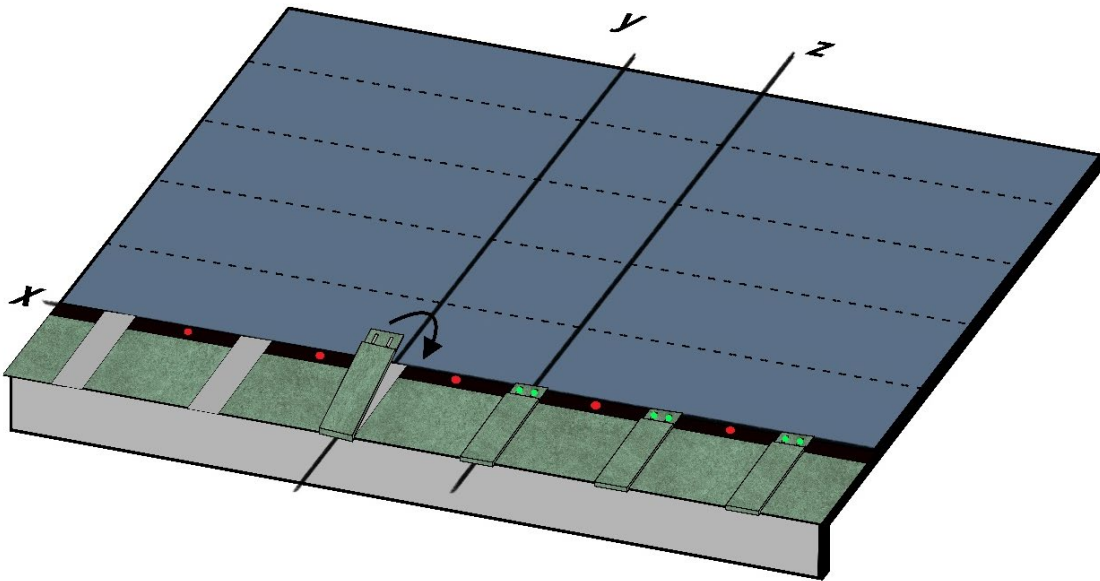

Fig. 9 - Compact Clip installation
- Insert the first Compact Clip, aligning the central notch with the joint between two consecutive shingles and a second Compact Clip in the middle of the shingle. Proceed with nailing the Compact Clips, using the appropriate holes – green nails as shown in Fig. 9. This will also secure the shingles to the substrate with additional fastening points